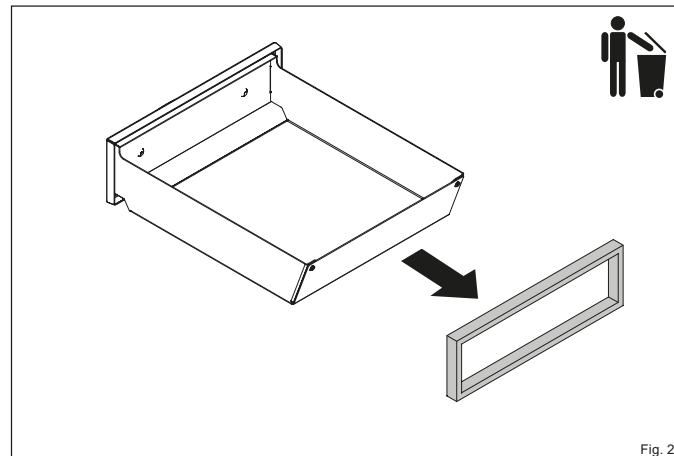

Fig. 29
- Pull the old seal out of the rail and dispose of it in the waste (Fig. 29).